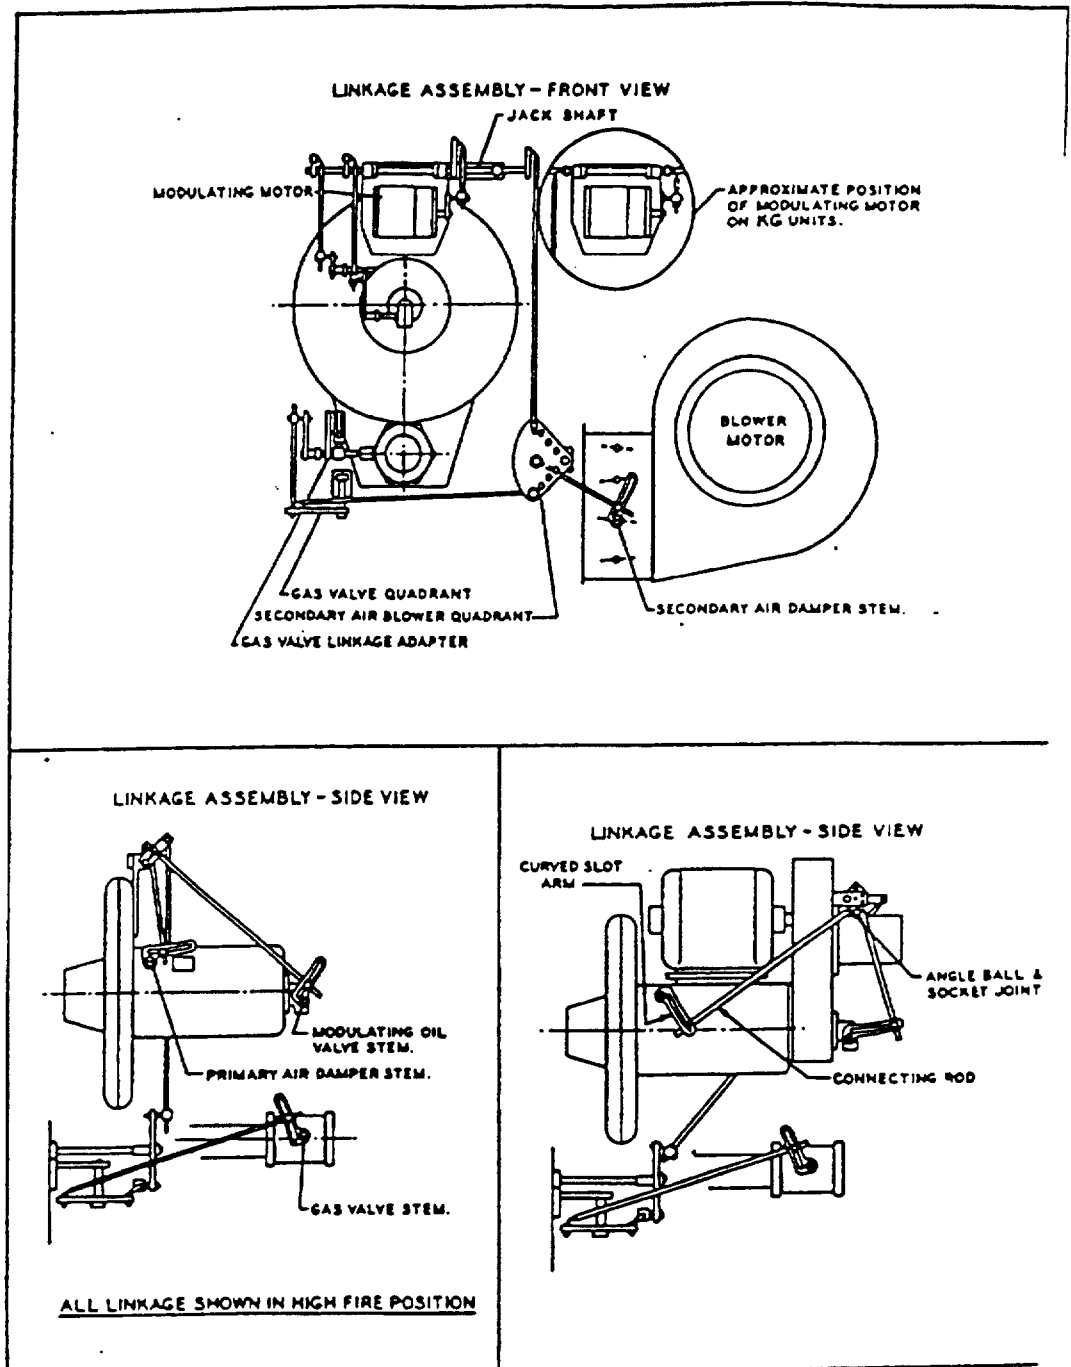
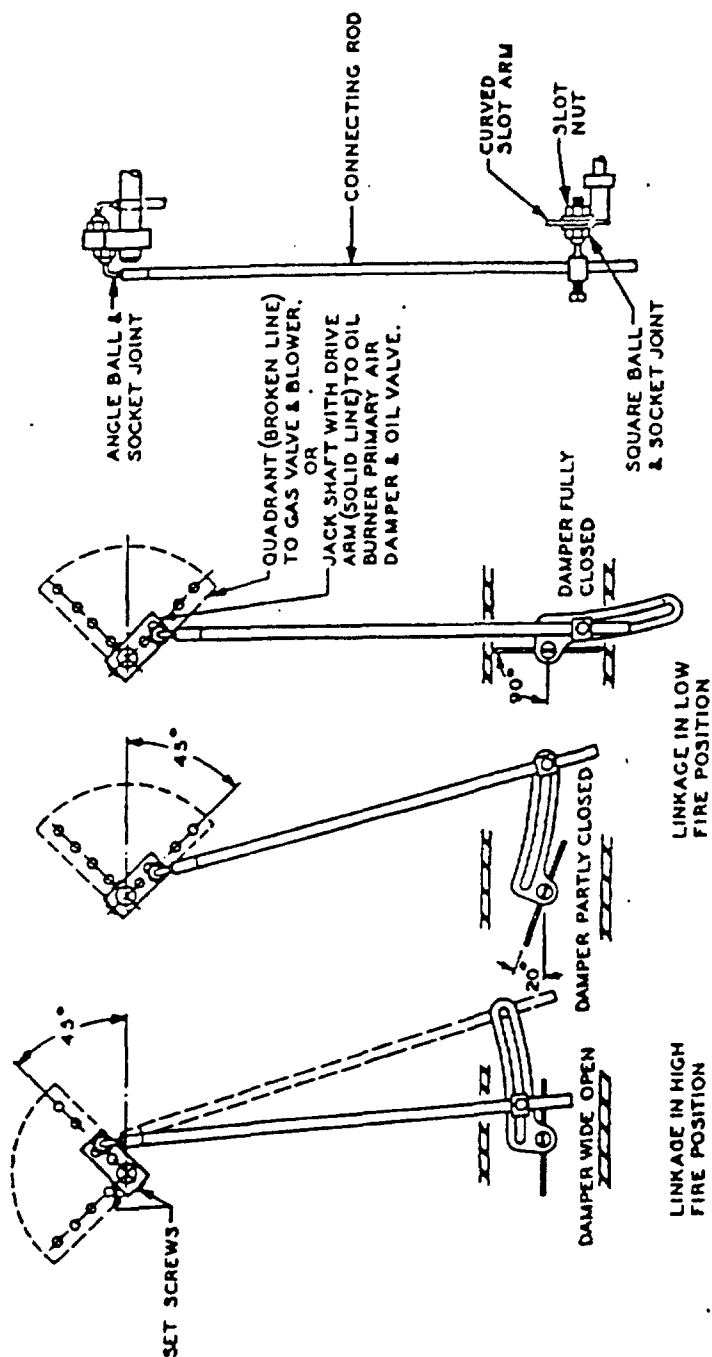

FIG. 5-2—LINKAGE ARRANGEMENT
FIG. 5-3—LINKAGE ADJUSTMENT
1. Jack shaft or quadrant must be in high fire position before assembling. See Figure 5-2 and Figure 5-3.
3. With the ball and socket joints and the connecting rod in place as in Fig. 5-3, adjust the rod length so that sliding the square ball and socket joint (when loose) in the curved slot arm (during high fire position) will not make the curved slot arm move. Leave ball and socket at outer end of slot until later.
2. Figure 5-3 shows how the linkage is arranged or must be corrected to achieve the proper final adjustment without difficulty. The linkage is driven to the high fire position by switching the modulating switch on the control cabinet to "manual" and turning the manual potentiometer to "open". To drive the linkage to the low fire position, turn the potentiometer to "close".